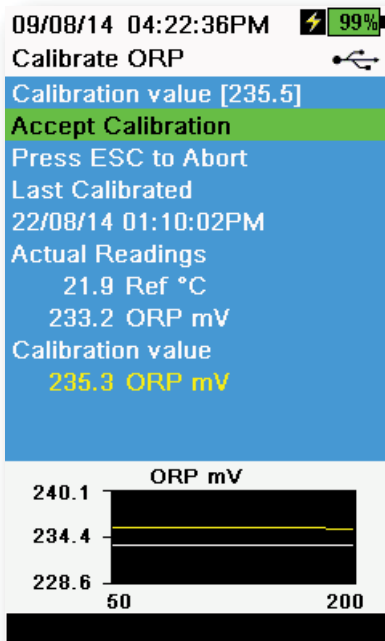

Figure 52 Calibrate ORP
7. Observe the actual measurement readings for stability (white line on graph shows no significant change for 40 seconds), then select **Accept Calibration** (Figure 52). "Calibration successful!" will be displayed in the message area.